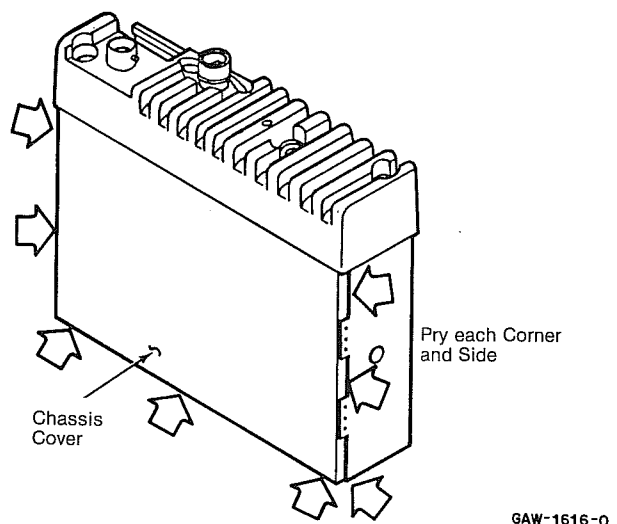

Figure 10
(2) Remove the chassis cover from the chassis by prying each corner and side a slight amount (Figure 10). Be careful not to overbend any one corner or side.